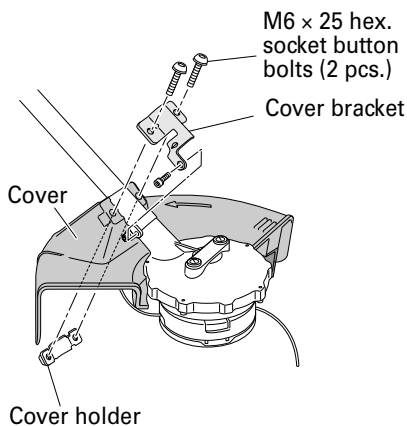

Fig. 11
- (2) Align the two holes in the cover bracket and the cover and insert two M6 x 25 hex. socket button bolts. (The cover bracket is installed in the motor case.)
- (3) Place the cover holder on the underside of the cover and use the supplied Allen wrench 4 mm to alternately tighten the two M6 x 25 hex. socket button bolts until they are properly tightened. (Fig. 11)